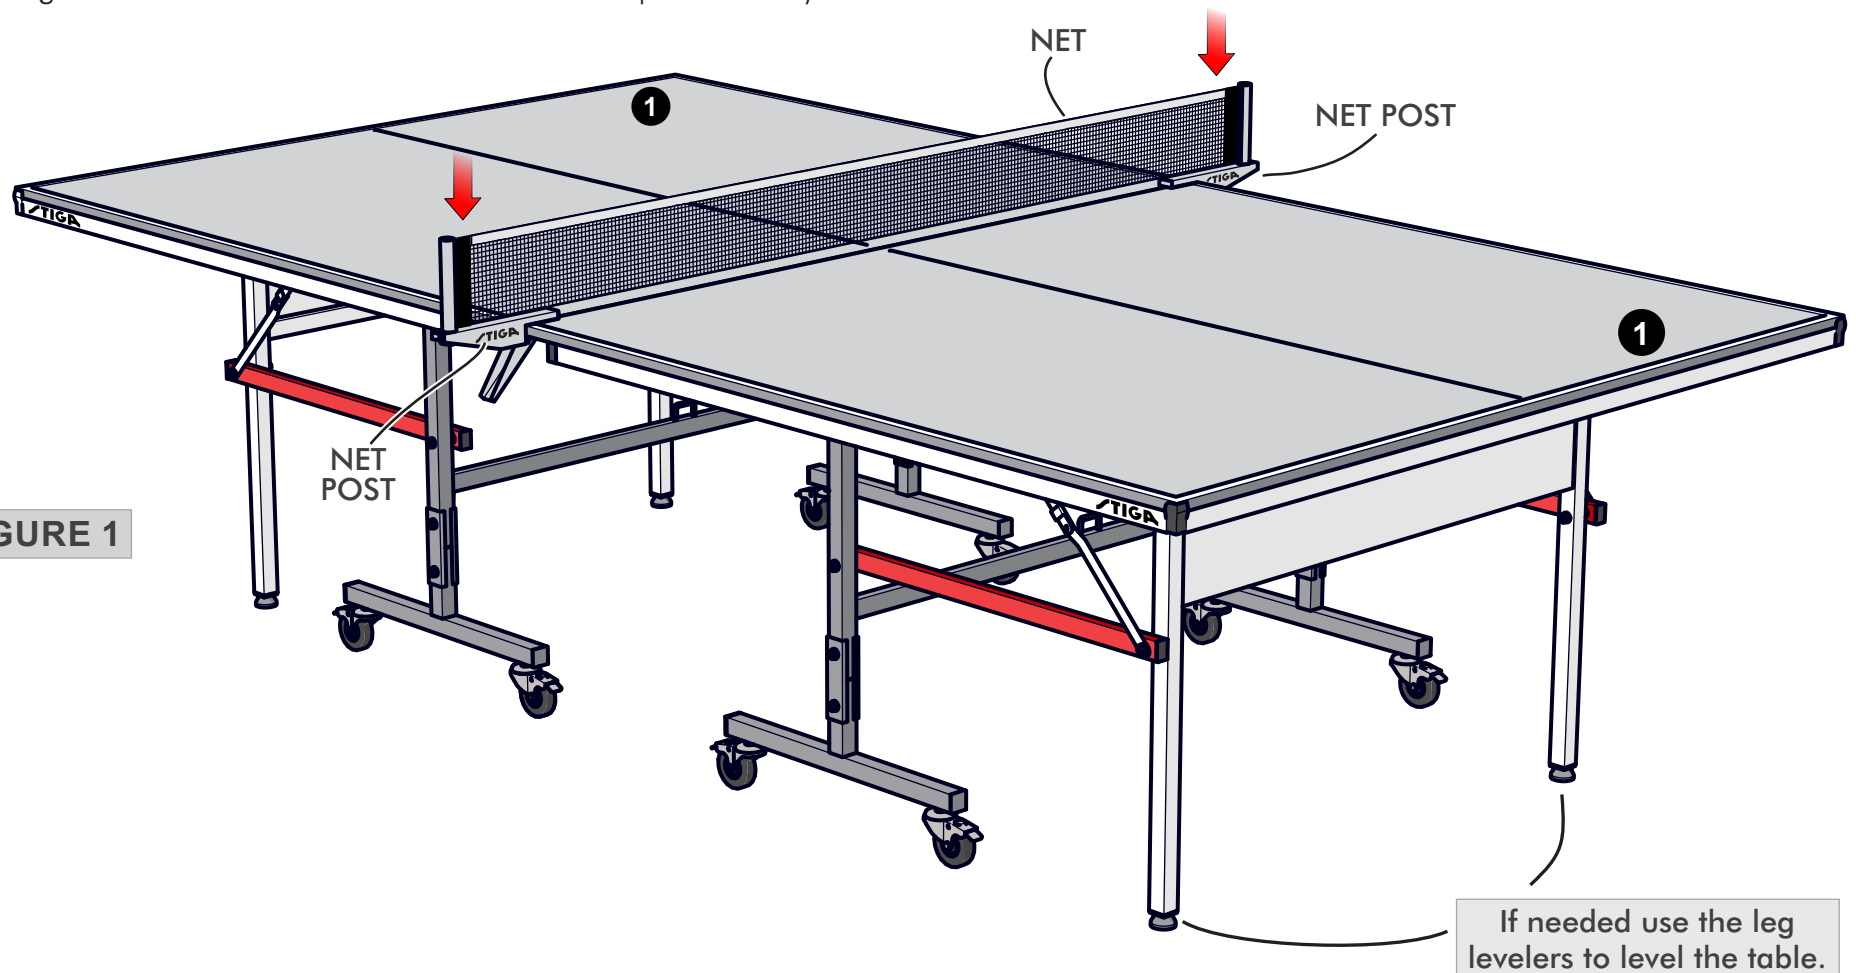

FIGURE 1
8. Attach **Net posts** to the middle of the table where the table halves meet. See **Figure 1**.